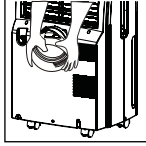
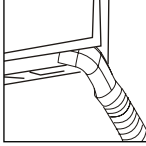

Fig. 2
Fig. 3
1. Insert ends of exhaust hose (14) into exhaust nozzle connector (13) by twisting counter-clockwise until it stops.
2. Attach one exhaust nozzle connector (13) onto the rear outlet of the unit. This is achieved by sliding the exhaust nozzle connector of hose downward over the exhaust outlet of unit (8) ensuring that the lugs on the exhaust nozzle connector are engaged with the grooves on the connector of unit (Fig. 2).
3. Attach the exhaust nozzle (12) to the exhaust nozzle connector (13).
4. Extend the exhaust hose (14) and close the window as far as possible trapping the exhaust nozzle (12) (Figs. 3 and 4).
3. Fit the exhaust hose in the housing at the back of the appliance (Fig. 2).